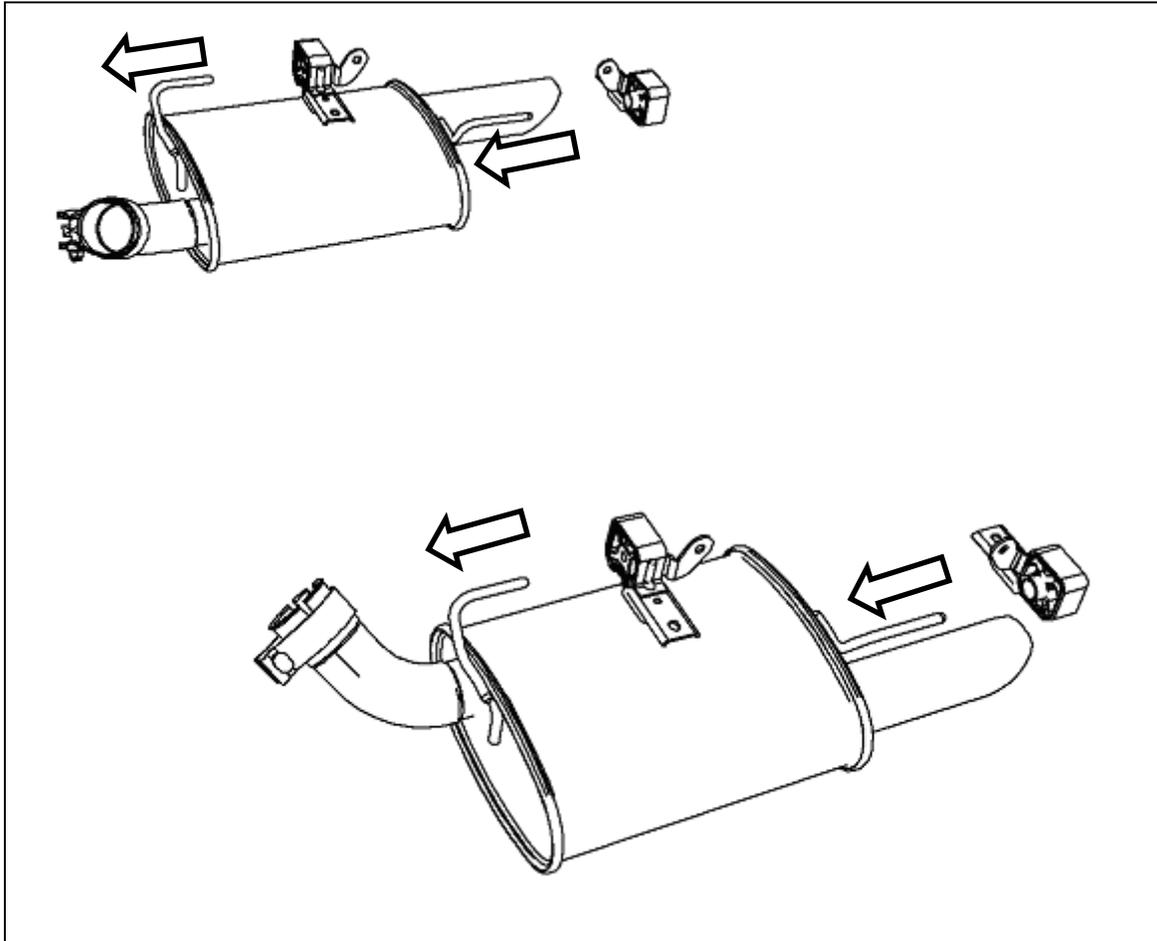

Figure 5
5. Remove both mufflers from the vehicle by sliding the mufflers out of the stock rubber isolators. Refer to Figure 5. Do not remove the stock rubber isolators from the vehicle.